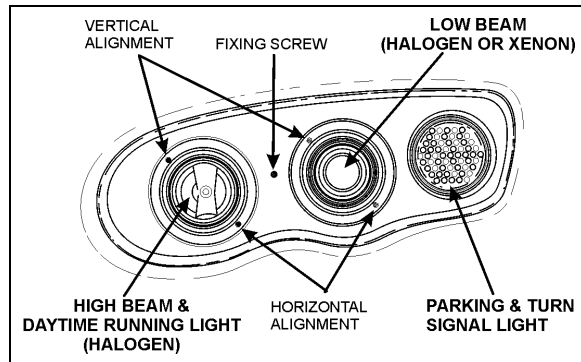

FIGURE 37: HEADLIGHT ASSEMBLY 06481
Headlight aim should be checked after installing a new bulb. Aiming can be performed without opening headlight assembly. Horizontal and vertical aiming of each module is provided by two adjusting screws that pivot the module in the housing for proper alignment (Figure 37). There is no adjustment for focus since the module is set for proper focus during manufacturing assembly.
2. Make sure that headlight assembly fixing screw is properly fastened (Figure 37).
If beam is offset, a LOW CANDLES message will appear. Using vertical and horizontal alignment screws, adjust beam as needed (Figure 37).